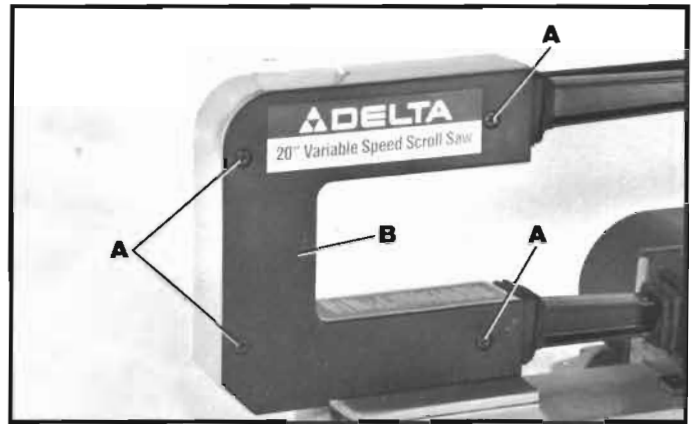

Fig. 30
2. Remove four screws (A) Fig. 30, and remove side panel (B) from the scroll saw.